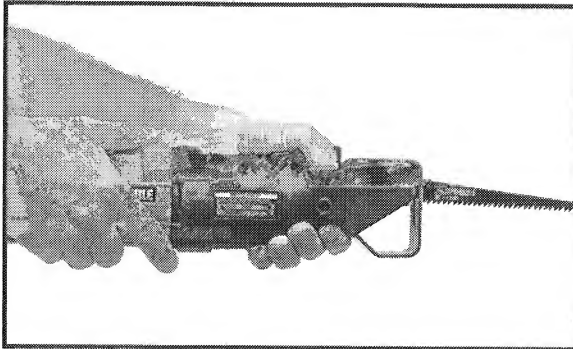

Fig. 4
- 1. ALWAYS** hold saw as shown in Fig. 4 to prevent accidental electric shock resulting from cutting a live wire when sawing into a wall or other blind area.
THE SAW MUST BE HELD AS SHOWN IN FIG. 4.**
**WARNING:** Exercise extreme caution when blind cutting to be certain there are no foreign objects, such as electrical wires, conduit, plumbing pipes, etc., that may come in contact with the blade. BE CERTAIN THAT THE SAW IS HELD AS SHOWN IN FIG. 4.